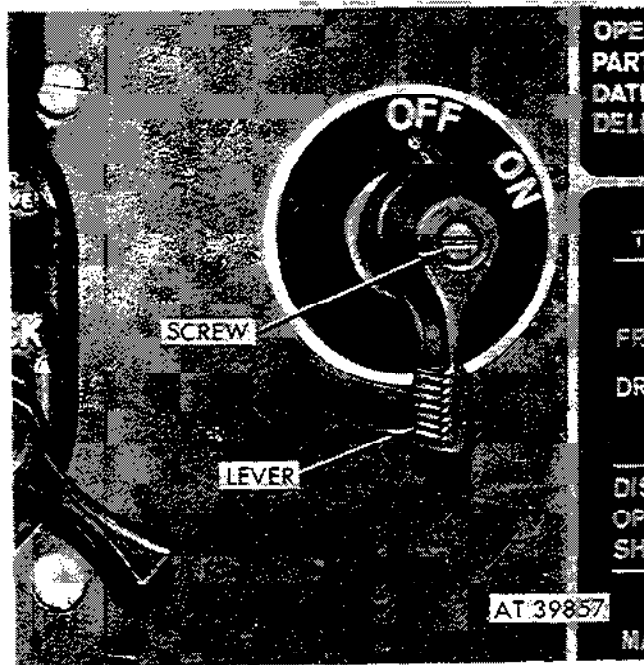

Figure 2-274. Remove switch lever.
(2) Remove screw from center of switch lever and remove switch lever (fig. 2-274).